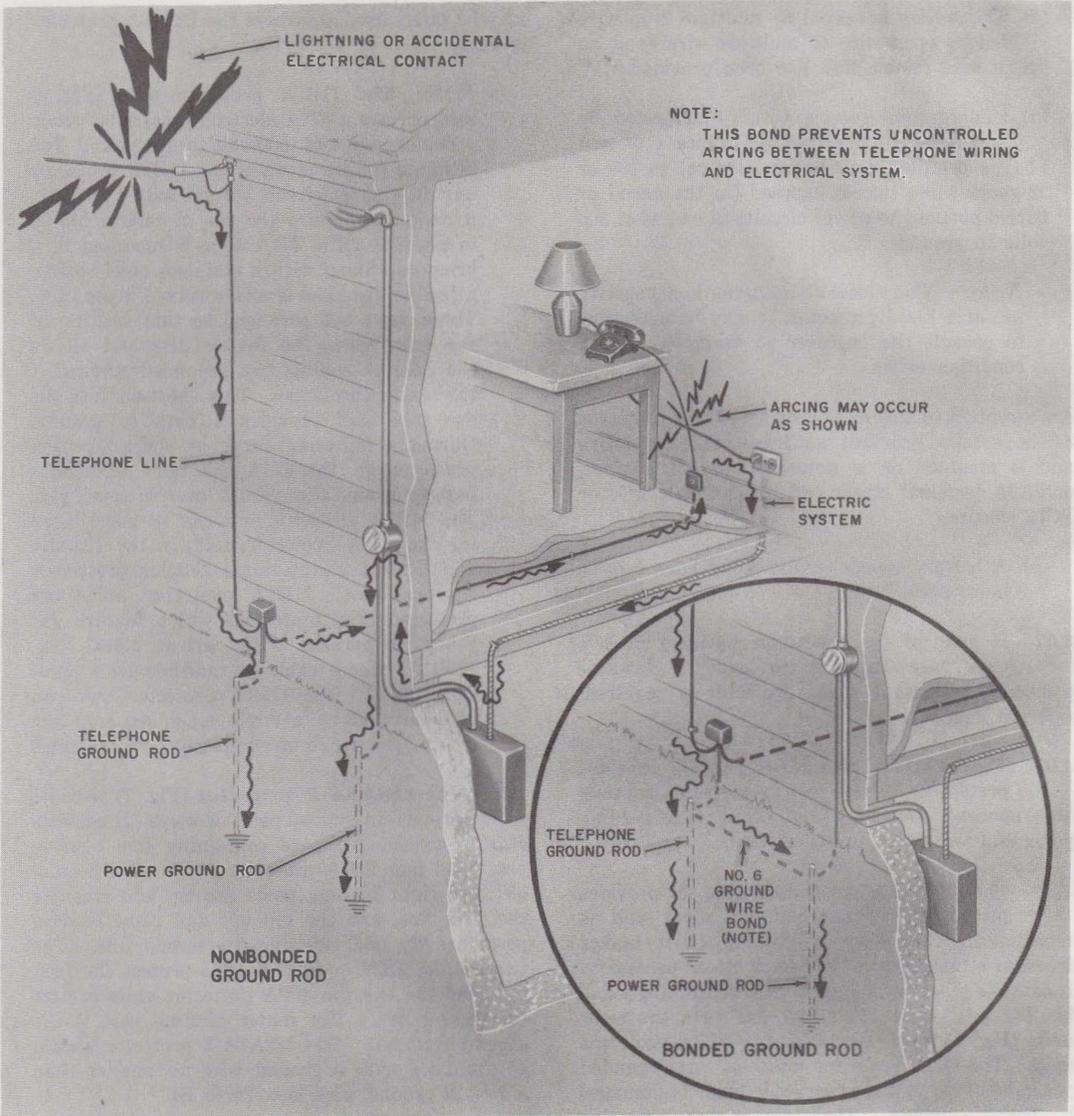

Fig. 1—How Bonding Reduces Differences of Potential Between Telephone Wiring and Electrical Systems That are Grounded to Separate Electrodes
1.08 Nearby lightning strokes can develop large potential (voltage) differences between telephone wiring, power wiring, water pipes, and building steel. Therefore, it is important that these systems be bonded together on the telephone customers' premises and the bonding conductors be as short and as straight as possible (see Fig. 1).